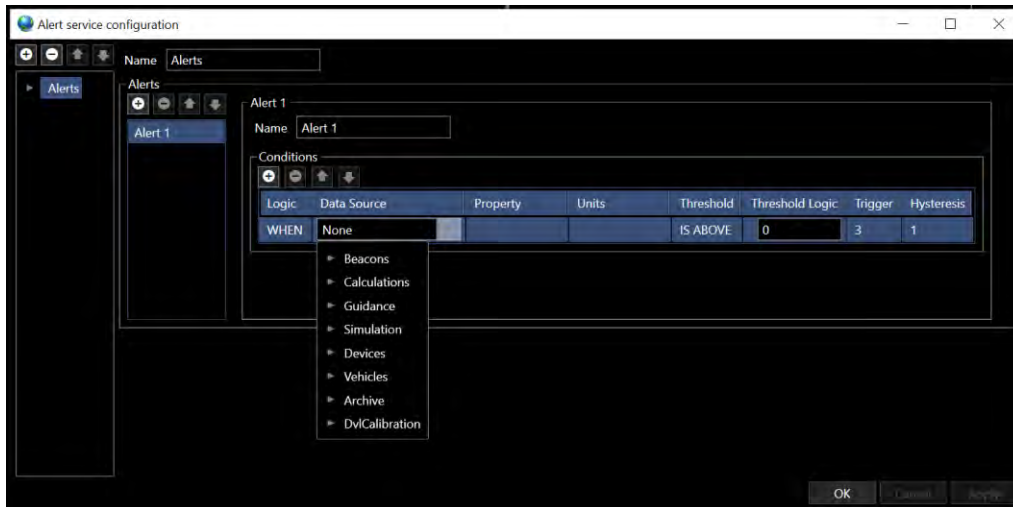

FIGURE 21-6 ALERT - DATA SOURCE SELECTION
- b. **Data Source:** Select Click in the respective cell to open the available data sources from the drop-down (see Figure 21-6)